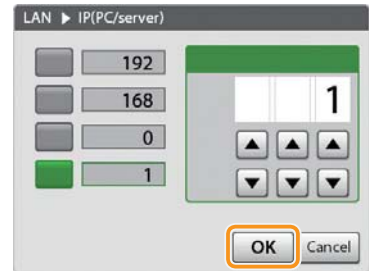

Figure 3-94
- Tap [OK] to complete the setting. (Figure 3-94)